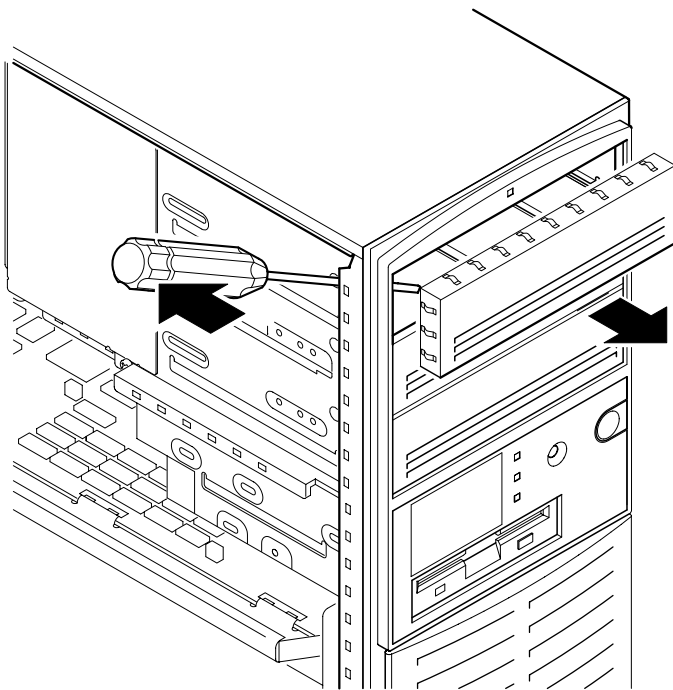

Figure 3-7. Removing Plastic Filler Panel from the Upper Drive Bay
2. Carefully remove the plastic filler panel (Figure 3-7). If no drive is present in the slot that is to be used, you can remove the panel by pushing it out from the inside with a Phillips screwdriver inserted through one of the screw holes in the side of the drive bay.